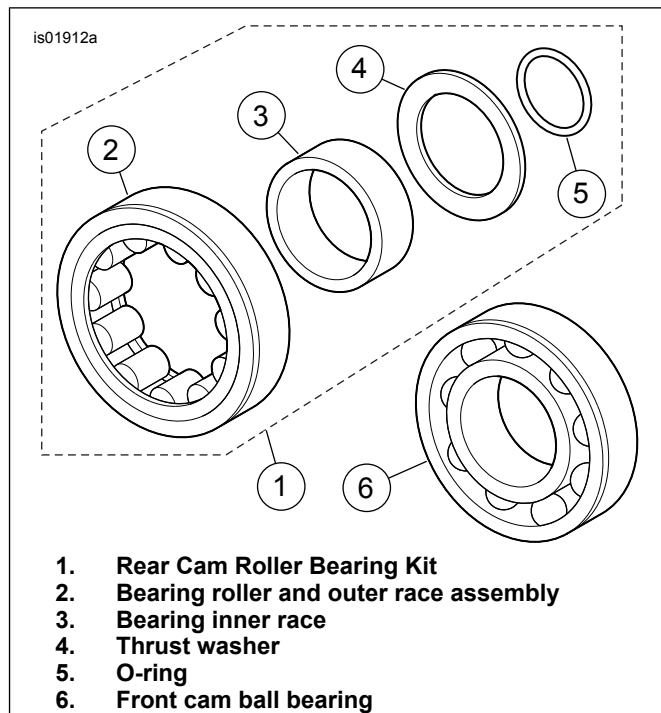

Figure 1. Cam Bearings
1. **ALL models:** See Figure 1. Get the new Rear Cam Roller Bearing Kit (H-D Part Number 8983) from inside the Cam Service Kit Part No. 17045-99D, purchased separately), and install as indicated in step 2.
2. See Figure 1. Install the O-ring (5), thrust washer (4) and bearing inner race (3) onto the rear camshaft as follows:
See Figure 1. The front and rear cam bearings **are not interchangeable**. The rear bearing is a roller bearing, and the front bearing is a ball bearing.
4. See Figure 1. Install the **new** front cam ball bearing (6) and rear cam roller bearing (1) into the cam support plate as follows: